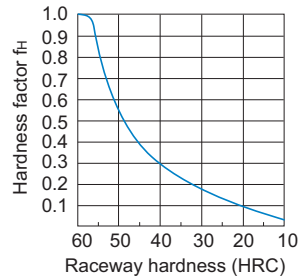

Fig. 1 Hardness Factor (f_H)
- f_H : Hardness factor (see Fig.1 11-6)